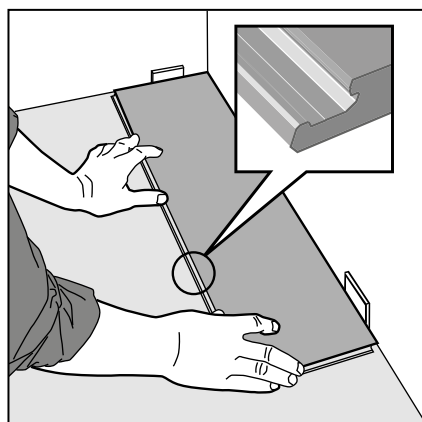

Figure 46 First plank, first row
- ▶ The plank are laid without adhesive. Start to lay the floor in the left-hand corner of the room with the lower male profile facing towards you (Fig 46).